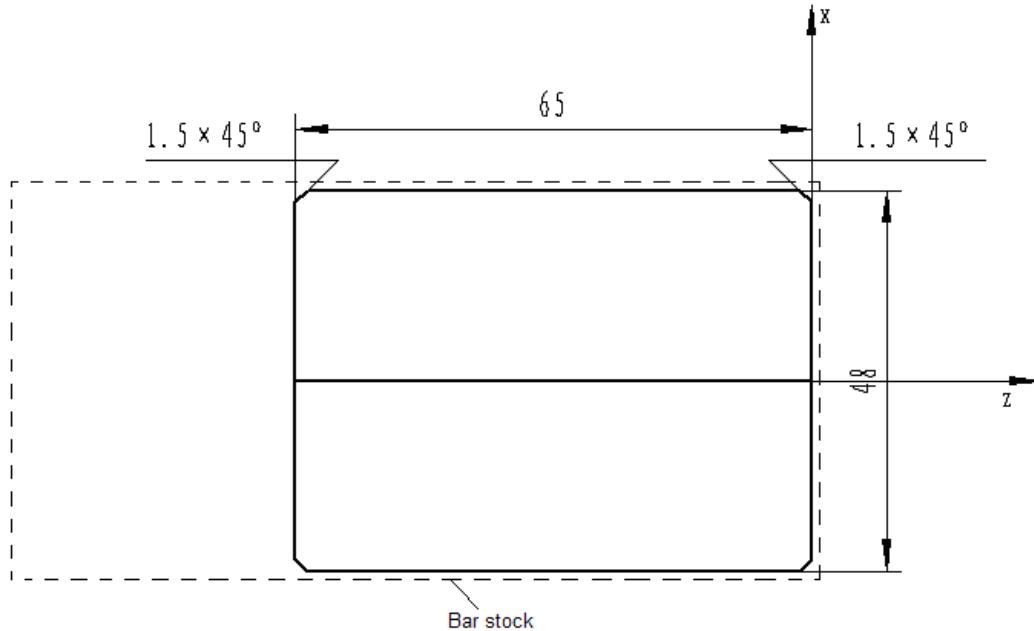

Fig.10-1
- 1) The workpiece is machined as Fig. 10-1, and the bar stock dimension is  $\Phi 50\text{mm} \times 100\text{mm}$ .
Based on the explanation of the codes of the mechanical machining process and the manual, the workpiece coordinate system is set shown as Fig.10-1, the program is edit as below:
Based on the explanation of the codes of the mechanical machining process and the manual, the workpiece coordinate system is set shown as Fig. 10-1, the program is edit as below: